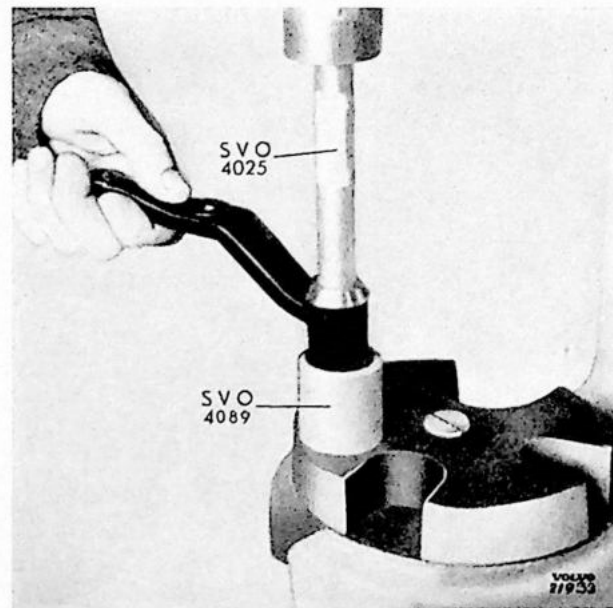

Fig. 32. Removing bushings from steering idler arm.
Replace bushings (12) as well as spacer (6). Press out bushings by means of tool SVO 4025 and SVO 4089 after having removed the grease nipple. See fig. 32.